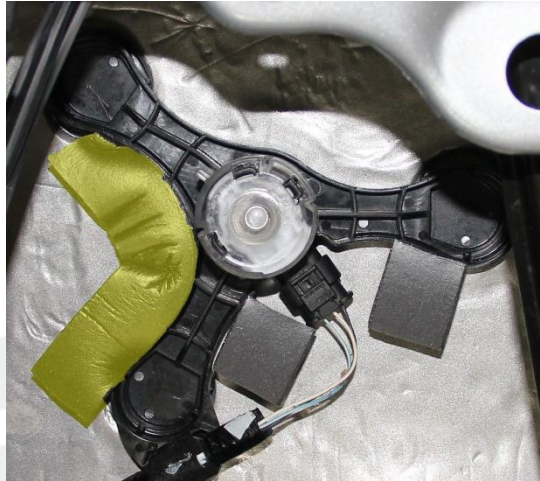

Figure 3 (Foam tape highlighted)
5. Install the foam tape along the curved rear section of the sensor as shown (Figure 3).